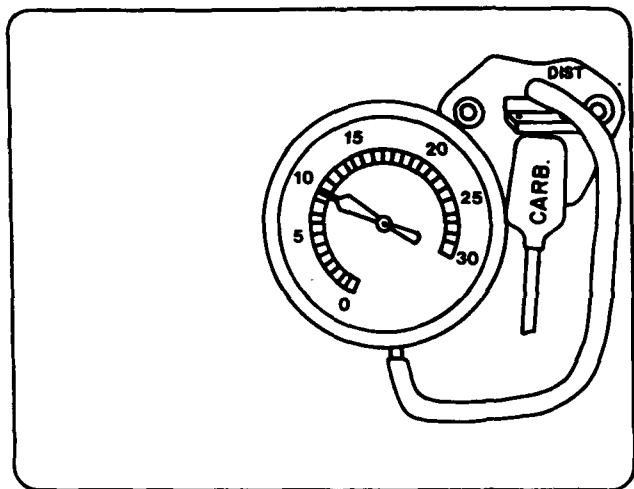

Figure 9-16
5. Figure 9-16 shows an OSAC valve being tested. List the basic steps necessary to perform this test.